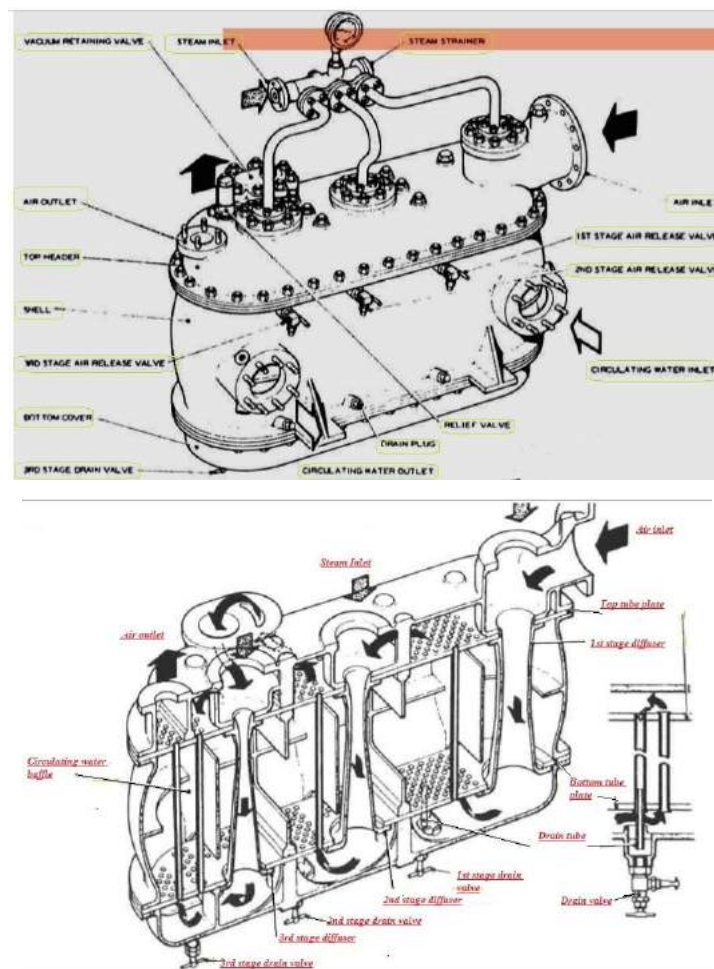

Figure 26 - Weir 3-stage Air Ejector
1st stage side, and out from the 3rd stage side (upper drawing in Figure 26) passing round the outside of the tubes to both cool the ejectors and at the same time heat the feed passing through it, with the condensed steam returning to the turbine condenser and the air released from the air outlet to atmosphere. In other words, the Air Ejector is a shell and tube heat exchanger with the steam passing through the tubes and the feed water passing through the shell. The feed water returns to the auxiliary feed tank to be drawn off by the auxiliary boiler feed pumps whilst we are starting things up. There is a turbo main feed pump for use on the hotel generator system, but it won't be required until we get the turbine running.
- *Air Ejector* – Uses steam ejectors to draw air and other non-condensables from the condenser and releases them to atmosphere. The heating effect of the 3-stage steam ejectors serves as a feed heater. *Note: Whilst the drawing shows the feedwater passing through the tubes, this is not the case (it's taken from the ship's original drawings), as it's the steam that passes through the tubes, and the feed water through the shell) – refer to Figure 26*
The 3-stage air ejectors can now have the steam cracked on to the nozzles within the ejector body (see Figure 26 - Weir 3-stage Air Ejector). This will start to evacuate air from the condenser and help to draw a partial (about 20") vacuum, though the main vacuum will occur once the exhaust steam from the turbine enters the condenser. Whilst we can draw a vacuum with these ejectors with no steam passing through the turbine, it needs the condensing steam to maintain the vacuum once the turbine is running on load. Too high a vacuum on start-up is not good for the turbine rotors either. We make sure via the drains that water is being returned to the condenser from the A/E and not steam, by adjusting the steam inlet valve, as there is no feed flow through the ejector at present.